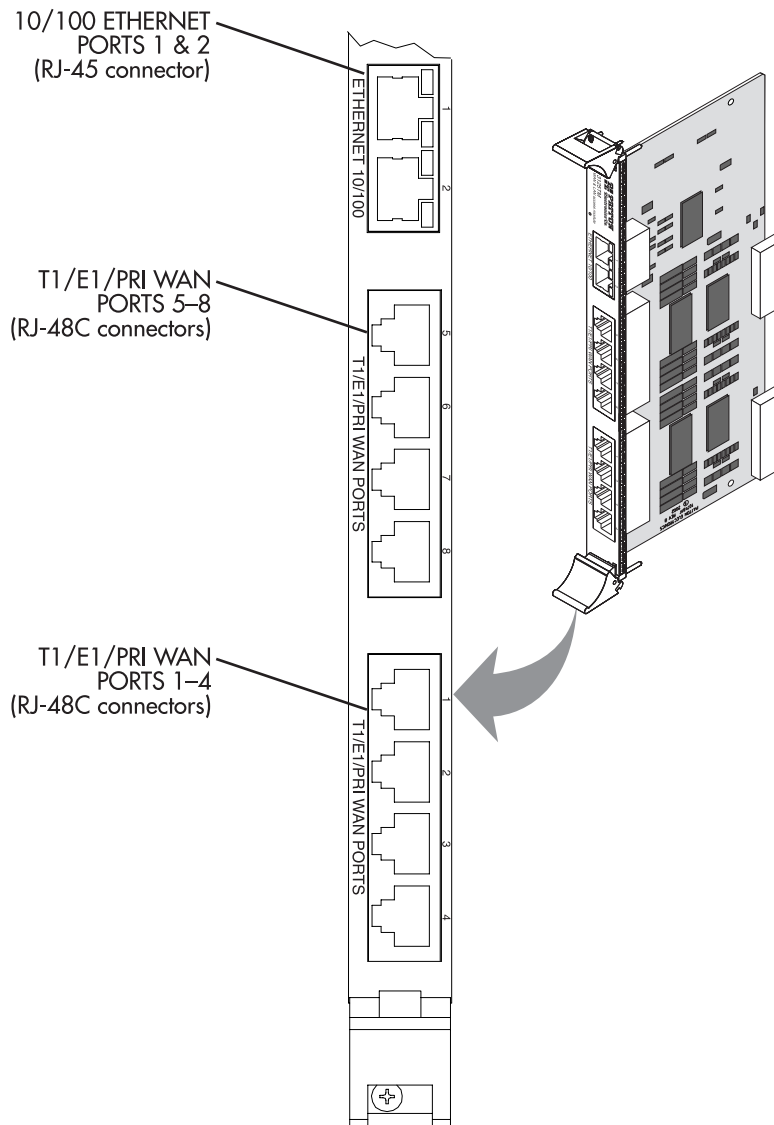
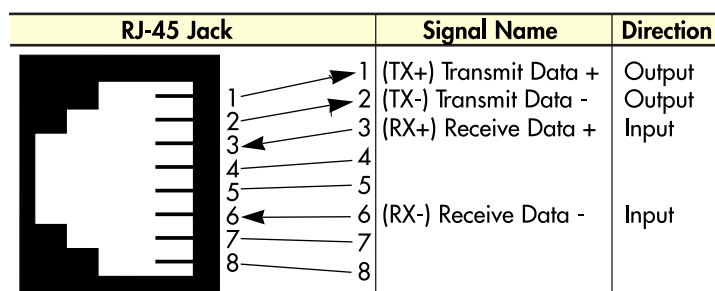
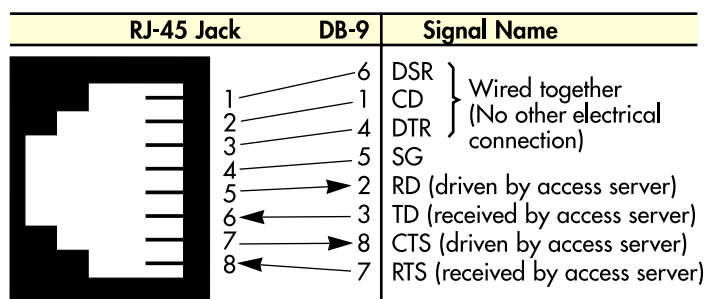

Figure 12. 3125™ network ports
Figure 13. Straight-through RJ-45-to-RJ-45 Ethernet cable diagram
Figure 15. DB-9-to-RJ-45 cable diagram
The 3125™ has a dual 10/100 Ethernet interface for connection to your LAN (see figure 12). The Ethernet port will autosense the correct speed of the local LAN and automatically negotiate half- or full-duplex operation. This section describes connecting the RAS to the Ethernet LAN via an Ethernet hub, switch, or workstation.
The 10/100Base-T Ethernet port (see figure 12 on page 31) is designed to connect to an Ethernet switch or hub. Connect a straight-through CAT-5 cable (one wired as shown in figure 13) between the RAS and the hub/switch.
Install the supplied DB-9-to-RJ-45 cable between the RAS RS-232 port (see figure 12 on page 31) and an open serial port on your computer. If you need to assemble your own cable, refer to the pinout diagram in figure 15.
1. If you have not done so already, install the supplied DB-9-to-RJ-45 cable between the RAS RS-232 port (see figure 12 on page 31) and an open serial port on your computer.